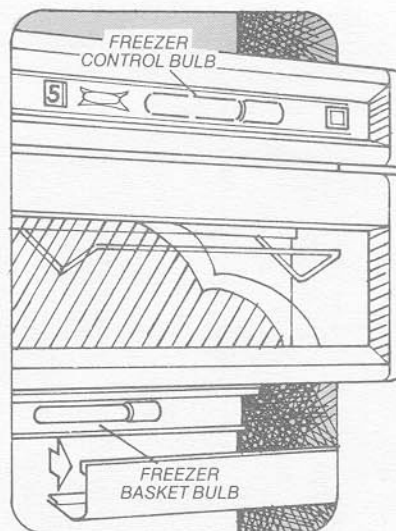

Figure 28
**To replace:** Remove ice container, reach behind the control panel and unscrew bulb. See Figure 28.
Below the icemaker, mounted on the back wall of the freezer, is the lower freezer lighting. To remove the light shield and access the bulb, gently compress the shield to release the top and then the bottom. See Figure 28. **To reinstall:** Engage the bottom first and then compress and insert the top.